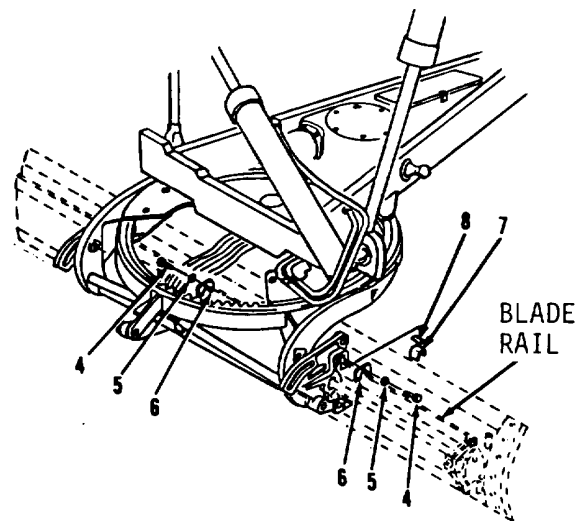

Figure 12-3.
8. Attach hoist and sling to two eyebolts on blade assembly (3).
9. Remove blade assembly (3). Operate blade sideshift control and expand cylinder rod to push blade assembly (3) away from circle.
12. Remove 40 bolts (4), washers (5), ten plates (6), five strips (7) and shim(s) (8, Figure 12-3).